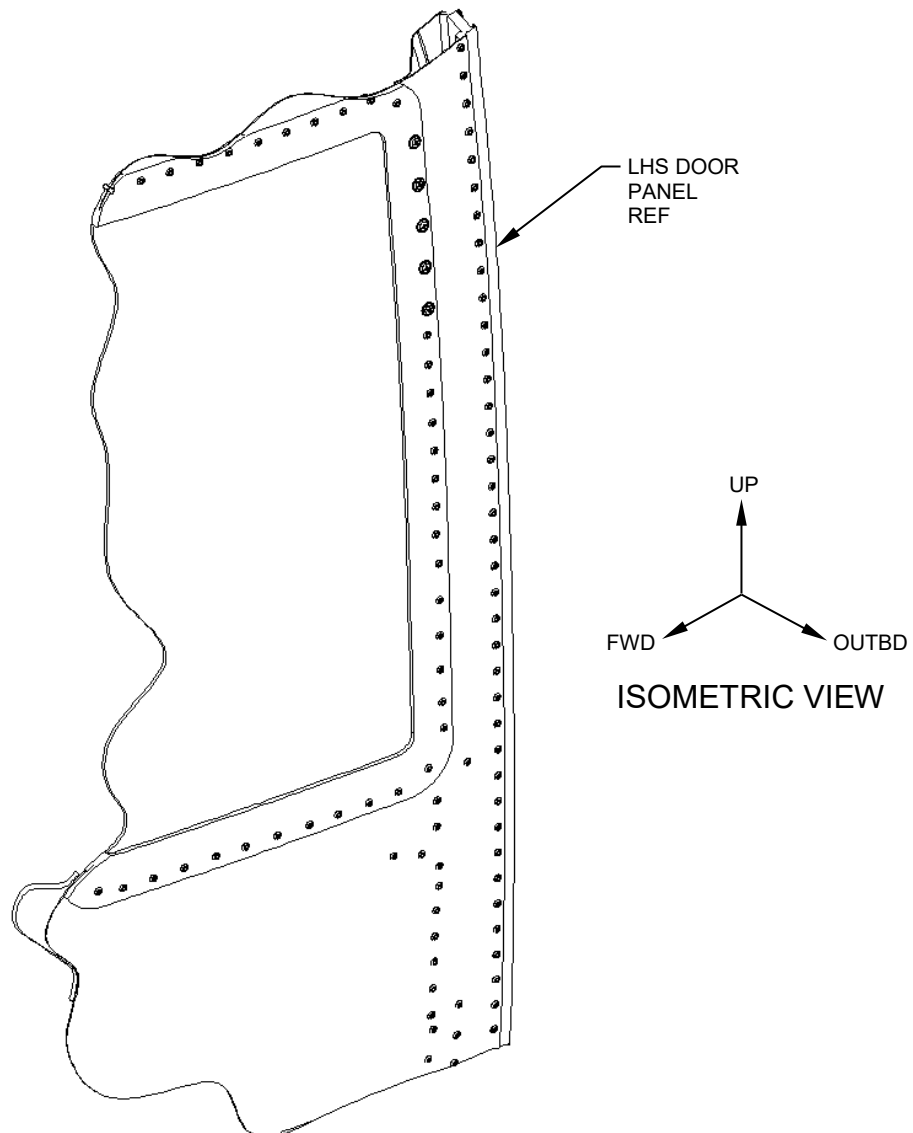

Figure 1
1. Gain access to the LHS passenger door panel. Reference Figure 1.